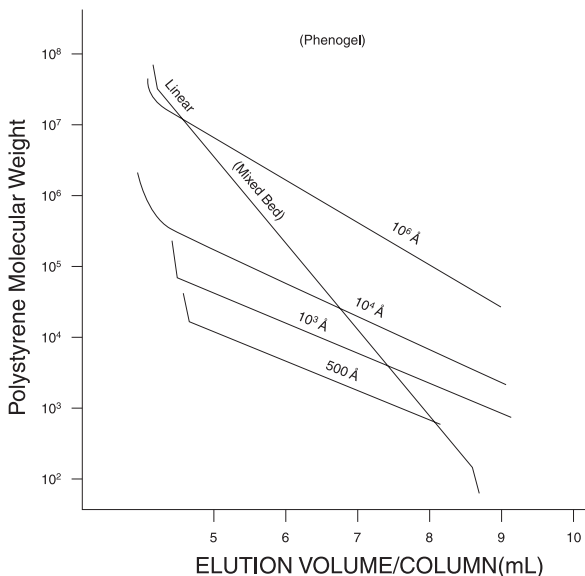

*Figure 9.* Extending the fractionation range of SEC columns by using a bimodal column set from Figure 8. Reprinted from Ref. 4 with permission.
- Typically, several pore sizes are used in series, both for increasing plate count and the fractionation range (Fig. 9).